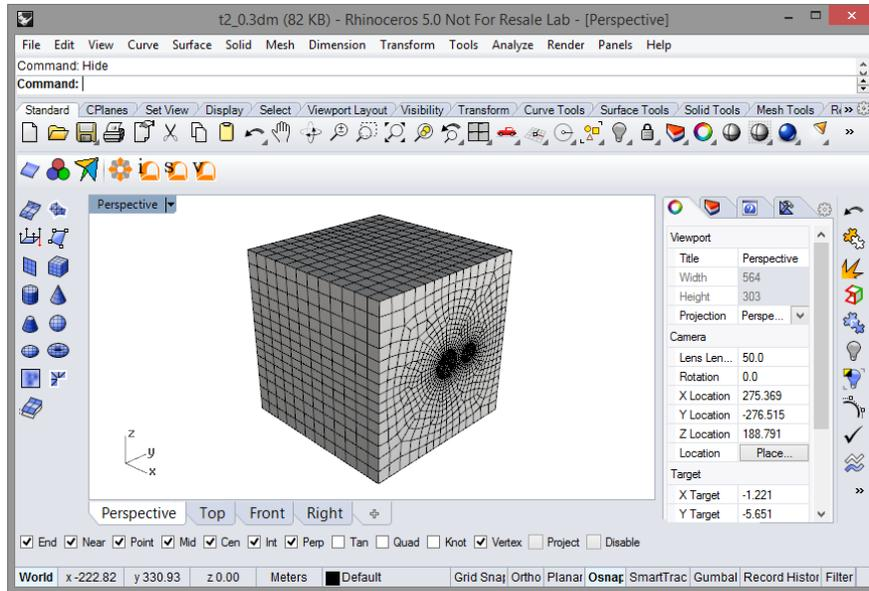

Figure 99: Quad dominant surface mesh generated by *Griddle*.
9. Type **_GSurf** on the command line to start *Griddle's* surface remesher with the selected meshes. Select **Mode:QuadDom**, **MinEdgeLength 10**, **MaxEdgeLength 10** and press Enter. *Griddle* will create a quad dominant surface mesh with edge size approximately 10 m on the box boundaries and approximately 1.5 m on the tunnel walls as shown in Figure 99.